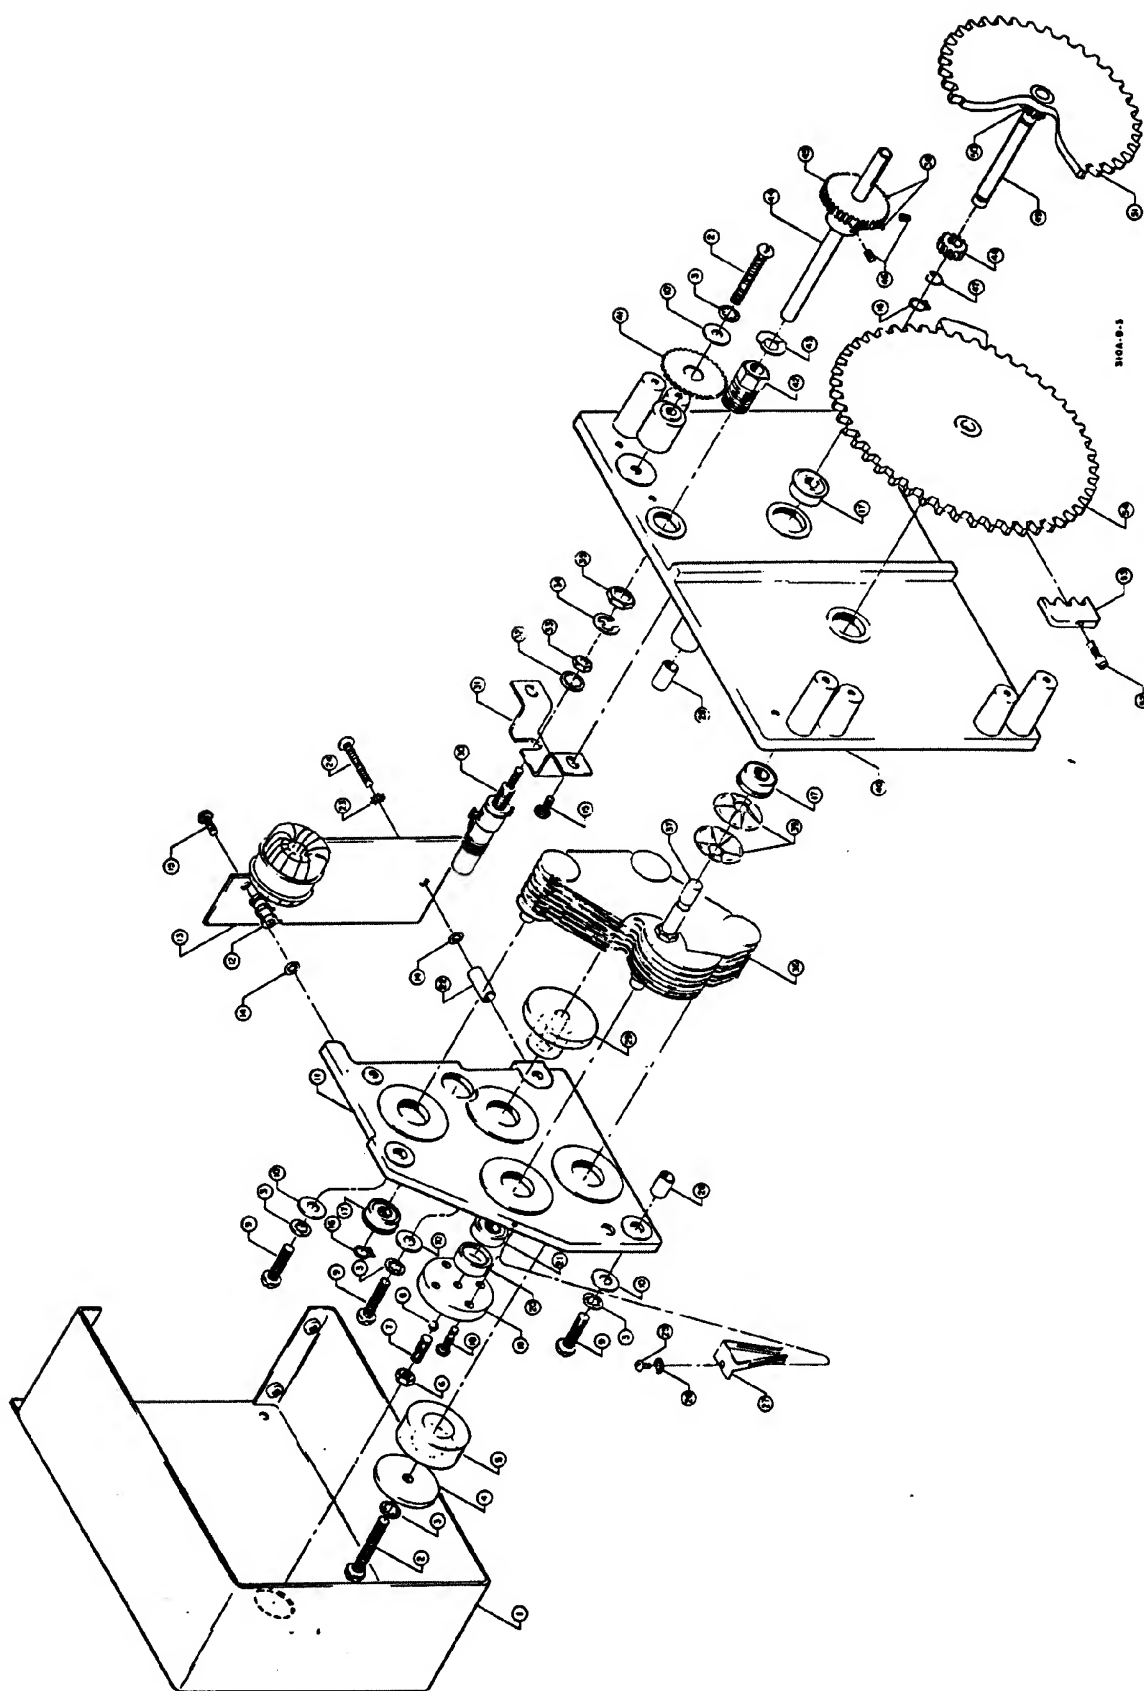
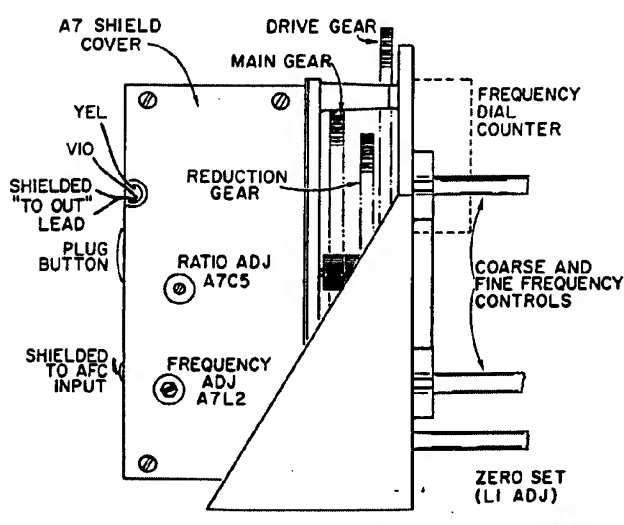

Figure 5-4. Capacitor Tuning Assembly
Figure 5-7. Tuning Assembly Adjustment Location
the frequency counter drive assembly, and the capacitor tuning assembly. A sketch of the tuning assembly is shown in Figure 5-7. An exploded view of the capacitor tuning assembly and the local oscillator assembly is shown in Figure 5-4. An exploded view of the frequency counter drive assembly is shown in Figure 5-8. Special tool, Ⓢ Stock No. T9138 alignment tool, is required for rotor adjustment. In addition, a hand press and plastic-head hammer is required since all bearings (except the ZERO SET shaft) are pressed into casting plates. Tables 5-6 and 5-7 list parts.
- b. Remove LOCAL OSCILLATOR (A7 Assembly) shield cover (see Figure 5-7). Unsolder leads connected to component side of board (yellow, violet, and two shielded, two conductor, leads).
Before proceeding with further disassembly, determine the necessary steps from inspection of the Tuning Assembly and Figure 5-4 and 5-8.
- a. Refer to Figure 5-4.
- b. Disassemble reduction gear shaft (49) from rear casting (11).
- c. Disassemble main gear (54) from rotor shaft (37).
- d. Disconnect A7-Assembly (13) and clip spring (27) from rear casting (11).
- e. Disconnect blue lead from A7-Assembly (13) to insulator stator (4).
- f. Remove three round head screws (2) holding rear casting (11) to front casting (40).
- f. Assemble shield (1 - Figure 5-4) to tuner.
5-36. The pre-installation tuning consists of centering the rotor with respect to the stator, adjusting L1 for the correct range of ZERO SET and aligning the assembly for the correct frequency range. Refer to Figure 5-7 throughout procedure.
- (1) Connect a lead to point labeled YEL.
- (2) Connect a lead to point labeled VIO.
- (3) Connect a short between point labeled TO AFC and point beside this point which is labeled with a ground symbol.
- (4) Connect a shielded two-conductor coaxial cable, one lead to point labeled OUT and one lead to point beside OUT which is labeled with ground symbol.
b. Place A7 shield cover in place with three leads passing through cover as shown in Figure 5-7.
- (1) YEL lead to yellow lead which normally connects to tuning assembly circuit board.
- (2) VIO lead to violet lead which normally connects to circuit board.
- (3) Center conductor of shielded lead to shielded lead from pin 14 of A8.
- (4) Shield of shielded lead to shield of shielded lead from pin 14 of A8.